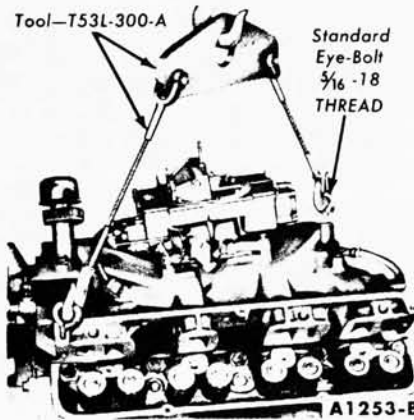

FIG. 29—Intake Manifold Removal or Installation
14. Install standard eye bolts with 5/16-18 threads in the left front and right rear rocker arm cover screw holes. Attach the engine lifting sling (Fig. 29).
5. Install the eye bolts in the intake manifold and attach the engine lifting sling and carefully lower the intake manifold on the engine (Fig. 29).